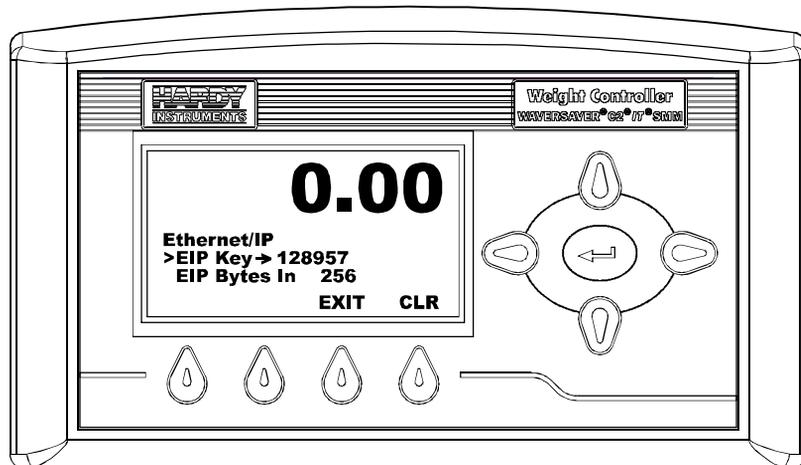

FIG. 127 ETHERNET/IP/EIP KEY NUMBER
- Step 5. Press the down arrow button until the cursor is in front of EIP Key. (See Fig. 127)